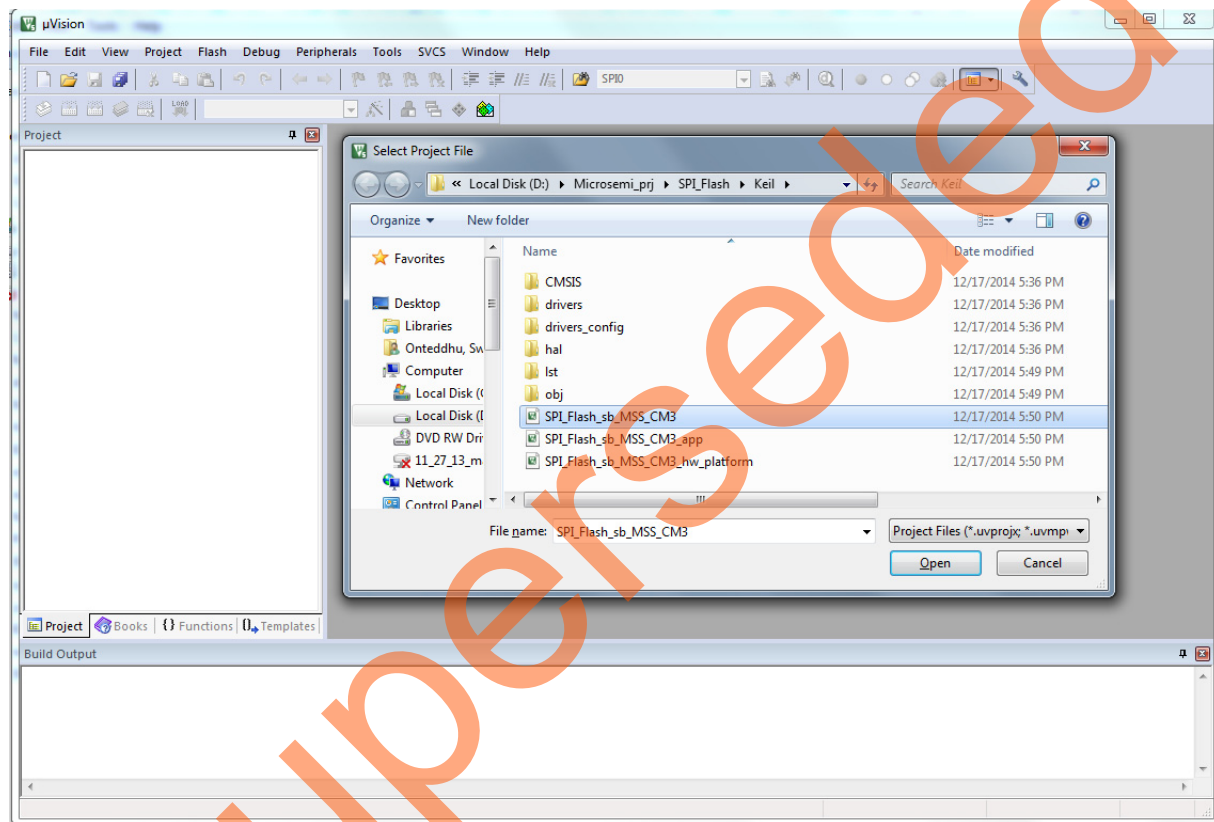

Figure 18 • Keil Homepage
1. Launch the Keil IDE. Open the Keil project by double-clicking SPI_Flash_sb_MSS_CM3 Keil project as shown in Figure 18.